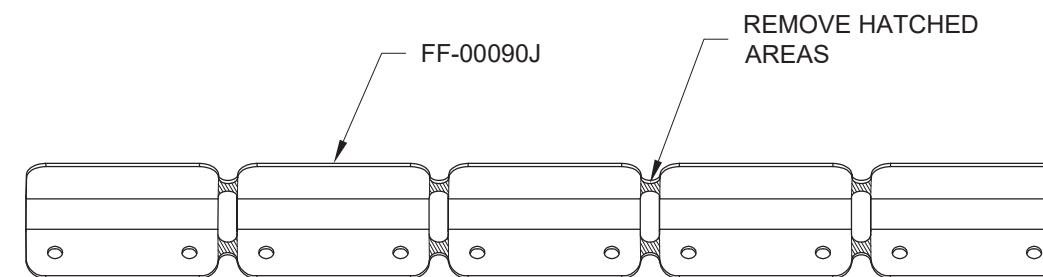

FIGURE 3: SEPARATING THE HEAT MUFF BAFFLES
Step 3: Separate the FF-00090J Heat Muff Baffles as shown in Figure 3.